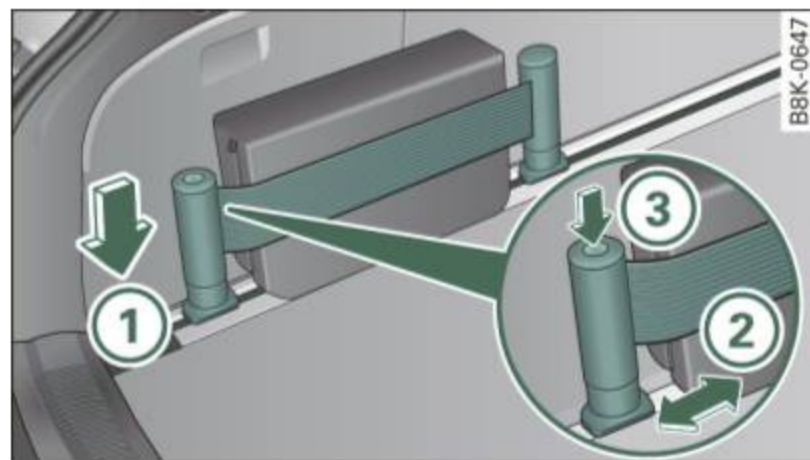

Fig. 92 Luggage compartment: Securing strap
- Push the holder down ⇒ fig. 92 ① and at the same time, slide it into the desired position ②.
- Push the knob on the front side of the holder ③ to tighten the strap.